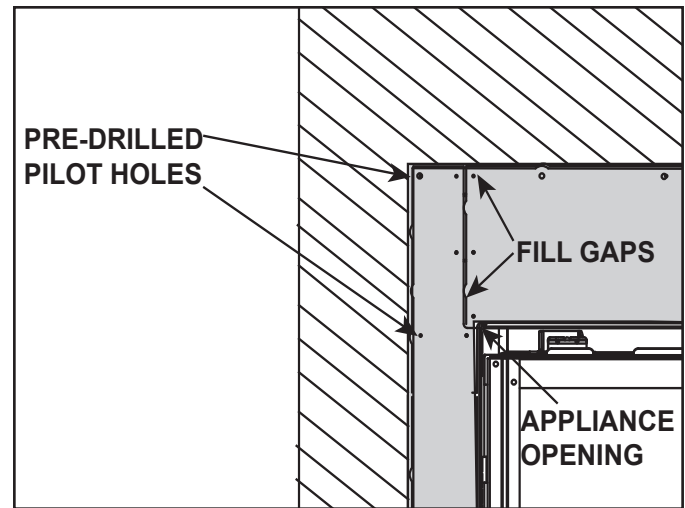
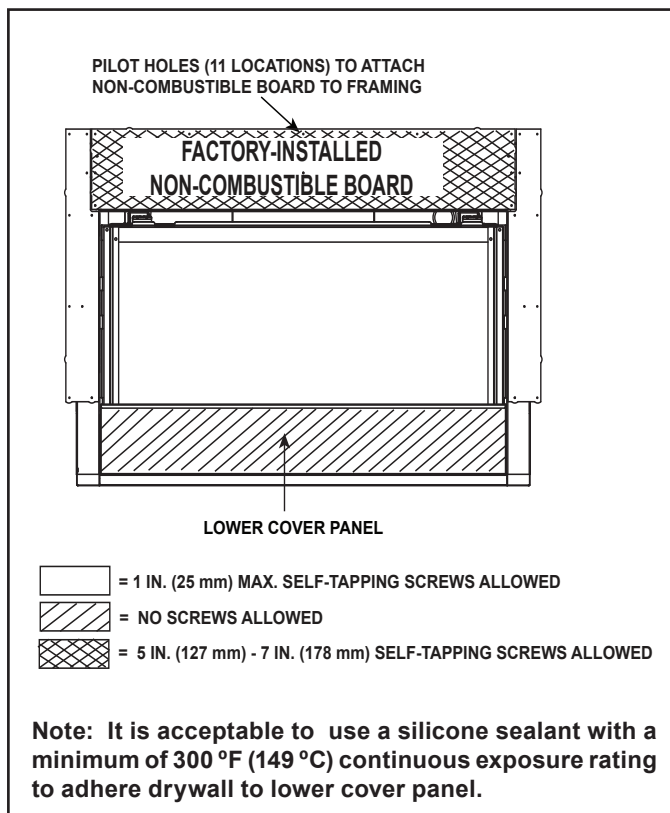

Figure 10.1 Install Non-Combustible Board
Figure 10.2 Finishing Details
- Seal gaps between the finished wall and appliance top and sides using a 300 °F minimum sealant. Refer to Figure 10.1 and Figure 10.2.
The factory-supplied non-combustible board must be used in all installations. It must be directly attached to structural framing adjacent to the appliance. Screw fasteners should be installed in the pilot holes provided in the outer perimeter of the non-combustible board. See Figure 10.1 and Figure 10.2.
2. The appliance ships with the required non-combustible board. The large top piece of non-combustible board is pre-installed at the factory. The narrow left and right non-combustible pieces are shipped within the appliance. Install the non-combustible side pieces with the screws provided in the manual bag assembly. There are pilot holes located on the left and right side columns. Care should be taken not to tighten these screws into the non-combustible board excessively. Set screws flush to the face of the non-combustible board. See Figure 10.2 and Section 6.D.
3. The outer perimeter of the factory-installed non-combustible board has pre-drilled pilot holes. See Figure 10.1. Secure the non-combustible board to adjacent framing with drywall screws that are a minimum of 1-1/4 inch in length. Care should be taken not to tighten these screws into the non-combustible board excessively. Set screws flush to the face of the non-combustible board. See Figure 10.2 and Section 6.D.
4. When installing drywall around the appliance, install a rectangular hole for the fireplace/non-combustible board in a single sheet of drywall. This will minimize the joints that require finishing adjacent to the fireplace opening. Ensure that the 1/8 inch gap is maintained between the factory installed non-combustible board and the surrounding drywall. See Figure 10.1. Secure the drywall to the framing with screws a minimum of one inch in length every six inches across the top of the fireplace and every ten inches on the sides of the fireplace.
1. **Step 1:** Fill all gaps and joints between the non-combustible board pieces and the drywall with a general purpose chemically setting joint compound such as Durabond® 45 Joint Compound manufactured by USG (Sheetrock® brand), recommended by Hearth & Home Technologies. Use a drywall knife to firmly press the joint compound into all gaps. See Figure 10.1. Allow these joints to dry.
It is acceptable to pre-drill holes and use self-tapped screws in the factory-installed non-combustible board to attach non-combustible backer board for tile, marble, etc. Refer to Figure 10.2 for acceptable screw location and screw length requirements.
Do not drill or install screws which may penetrate the lower cover panel as this will restrict required access to the glass, battery-back-up, and control module. See Figure 10.2.